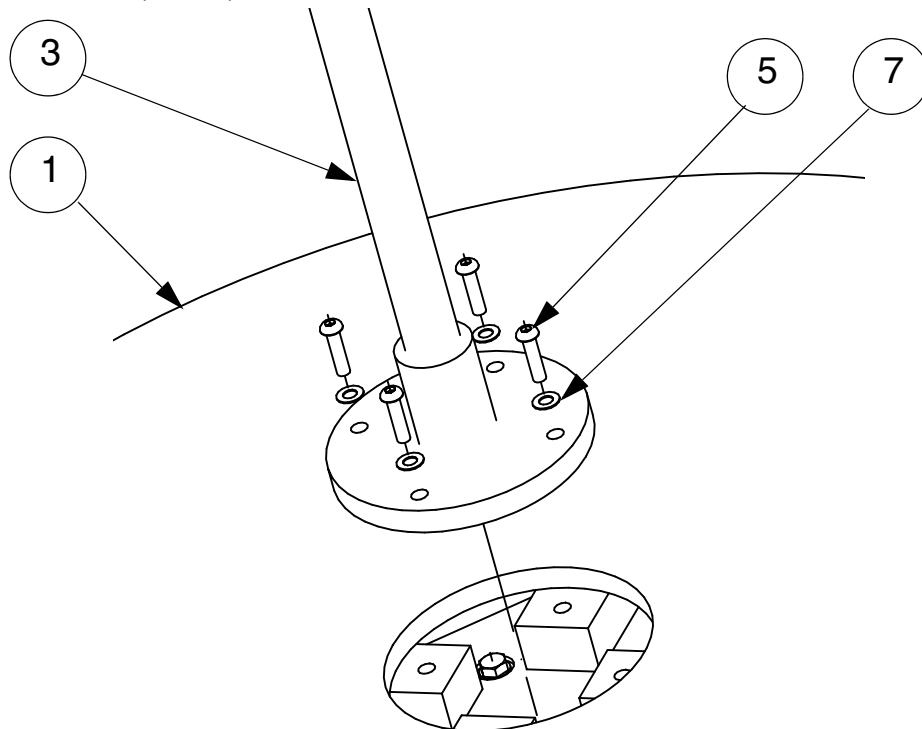

FIG.12
vii) Place Pole Fabrication (item 3) into the hole in centre of the Deck Assembly (item 1) and secure in place using 4 off M10 x 40 Resistorx bolts (item 5) and M10 washers (item 7). Fully tighten bolts to a maximum torque setting of 20-25Nm. (FIG.12).
- i) Dis-assemble the Pole Assembly from the Deck Assembly by removing 4 off Armour Rings, M10 x 40 Resistorx Bolts and M10 Washers. See Section 1 FIG.12.
- xiv) Re-assemble the Pole Assembly on to the Shaft & Bearing Assy using 4 off Armour Rings, M10 x 40 Resistorx Bolts and M10 Washers. See Section 1 FIG.12.